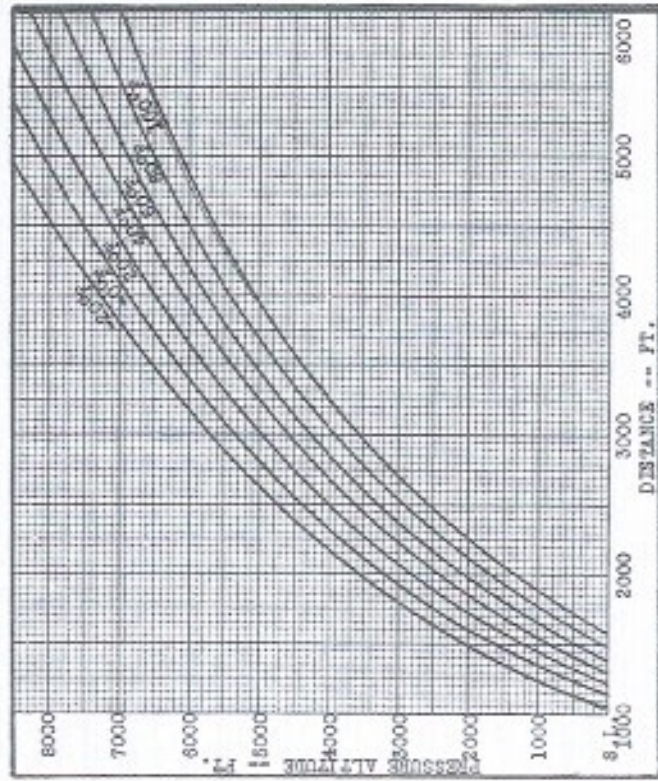

Figure 13 - Take-Off Over Obstacle Distance
37. Take-off distances at various altitudes and temperatures are shown on Figure 13. Included in the distance given by these curves is that required to climb to 50 feet above the field. The data from which the curves were derived was obtained during flight tests conducted under the following conditions: